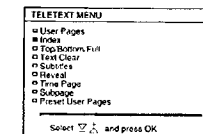

Fig. 43
- 2 Using **[Δ+]** or **[▽-]**, select the teletext function you want and press **[OK]**. (See Fig. 43).